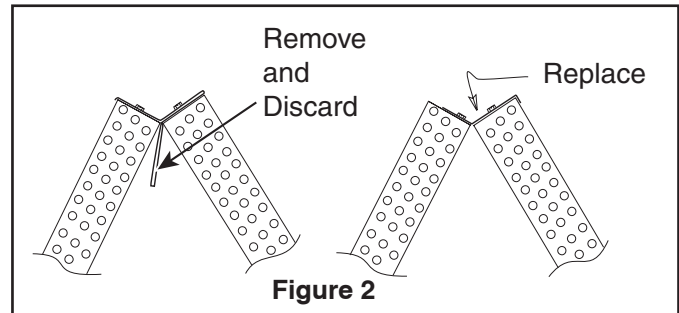

Figure 2
- Optional but recommended: Remove the factory installed two-piece baffle assembly from the top of the coil by removing the 5/16" hex head screws. See Figure 2. Replace only the top baffle using the same screws previously provided.
- b. Optional but recommended: Remove the factory installed two-piece baffle assembly from the top of the coil by removing the 5/16" hex head screws. See Figure 2. Replace only the top baffle using the same screws previously provided.